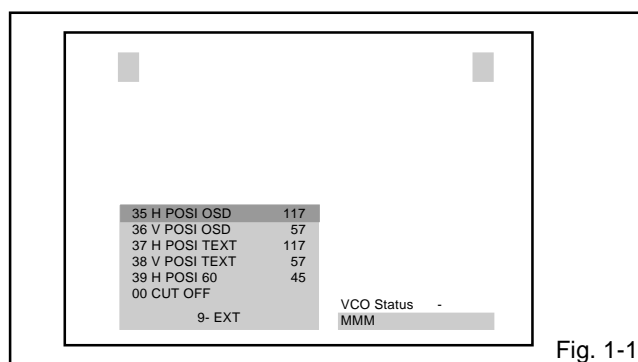

Fig. 1-1
1. In the condition of NO indication on the screen. Press the VOL. DOWN button on the set and the Channel button (9) on the remote control for more than 2 seconds to appear the adjustment mode on the screen as shown in Fig. 1-1.
3. Activate the adjustment mode display of Fig. 1-1 and press the channel button (13) on the remote control to select "VCO COARSE".
4. Activate the adjustment mode display of Fig. 1-1 and press the channel button (01) on the remote control to select "RF AGC".
4. Activate the adjustment mode display of Fig. 1-1 and press the channel button (00) on the remote control to select "CUT OFF".
4. Activate the adjustment mode display of Fig. 1-1 and press the channel button (03) on the remote control to select "R DRIVE".